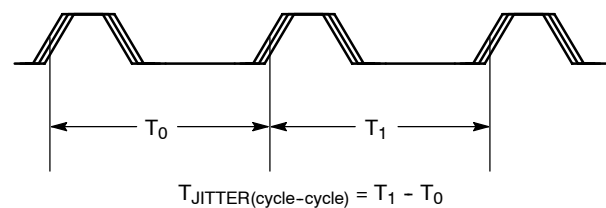

Figure 10. Cycle-to-Cycle Jitter
**Cycle-to-Cycle Jitter** (short-term) is the period variation between adjacent periods over a defined number of observed cycles. The number of cycles observed is application dependent but the JEDEC specification is 1000 cycles. See Figure 10.